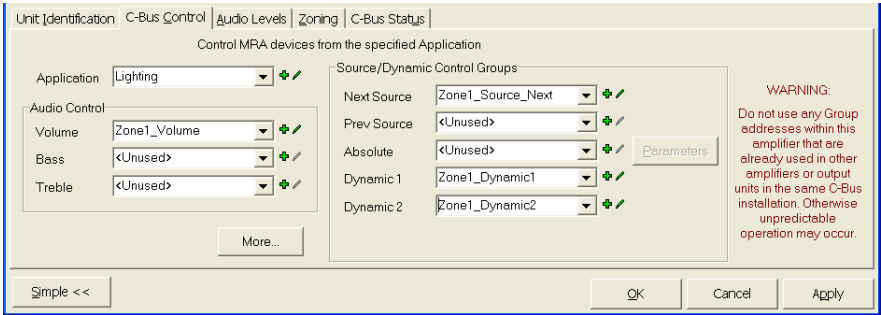

Figure 25 – The C-Bus Control tab for the Zone 1 Remote Amplifier
- Figures 25 to 27 show the configurations for the Amplifiers in the example MRA system.